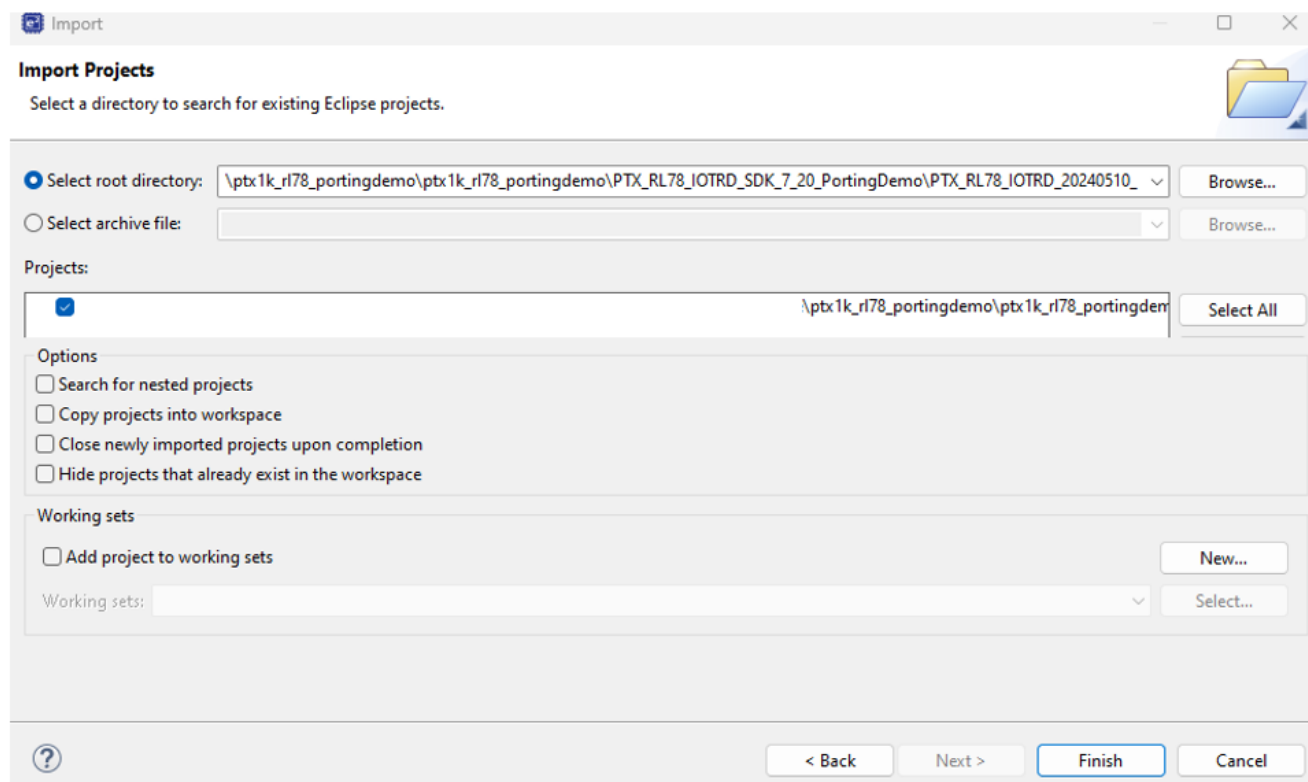

Figure 4. Browse to Project Location
5. The root directory must be selected. Click on **Browse**, navigate to **ptx1k_rl78_portingdemo\PTX_RL78_IOTRD_SDK_7_20_PortingDemo\PTX_RL78_IOTRD_20240510_** and select this folder (see Figure 4).